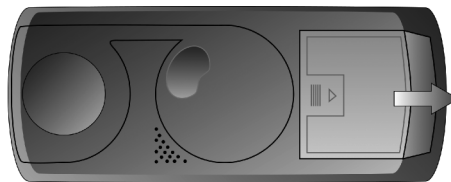

Figure 29. Removing the battery compartment cover.
4. Press down lightly on the battery compartment cover and push the cover in the direction of the arrow, then rotate the cover upwards (Figure 29 on page 55).